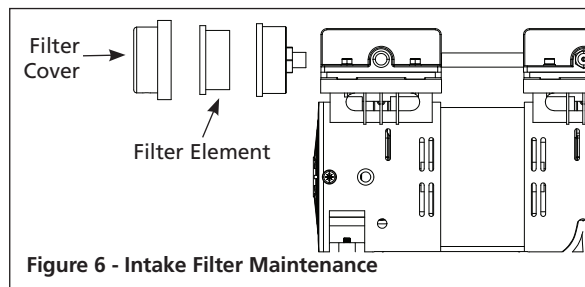

Figure 6 - Intake Filter Maintenance
Removal, Inspection and Replacement (Figure 6). The intake filter element should be removed and checked periodically. A clogged intake filter can decrease compressor performance and cause the compressor to overheat.
3. Reinstall filter, cover, and bolt. Thread the intake air filter into the threaded opening in the side of the compressor head as illustrated in Figure 6 before use.